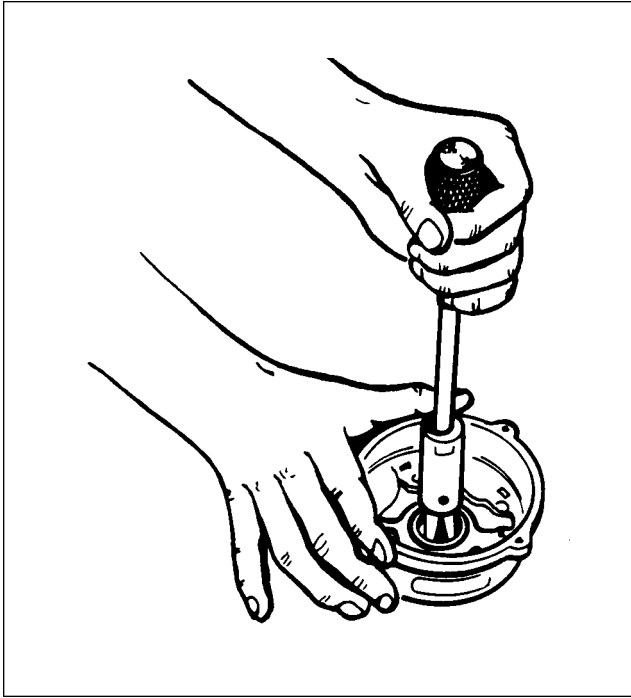

Figure 11-24. Removal of Slip Ring End Bearing
- f. To remove the slip ring end bearing and grease seal, it will be necessary to have a hook type or impact type bearing puller as shown in Figure 11-24. Do not remove the bearing unless replacement is necessary.